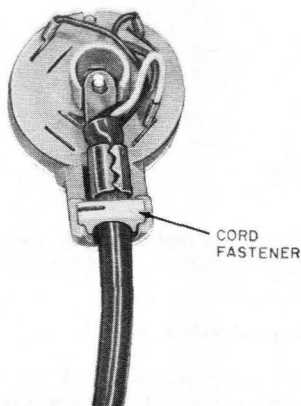

Fig. 41—Current Model D3BU Cord Connected to Current Model 505A Plug
- (1) Position flat eyelet stay band in the cord channel so that the screw hole is over the screw hole in the center of the cord tip guide (Fig. 41).
- (2) Fit cord fastener into groove in the cord channel and press until it snaps into position.
- (3) Connect the mounting cord space tips in the socket-type terminals.
- (4) Insert screw through hole in block and stay band.
- (5) Dress conductors so they will not obstruct the center of the cord tip guide.
- (6) Position cap assembly on cord tip guide and block; check that no cord leads are pinched and tighten screw.